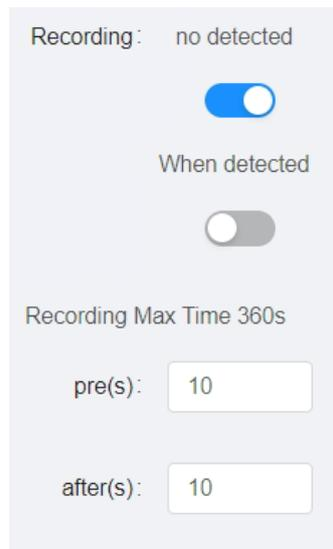

Figure 5.7 Video settings
Step2: Parameter settings which can draw the recognition area, set the recognition threshold, save images and videos, etc. Click the "Preview" button to see the current image in real time, as shown in Figure 5.7. Of which:
the start of the recording. As shown in Figure 5.7.